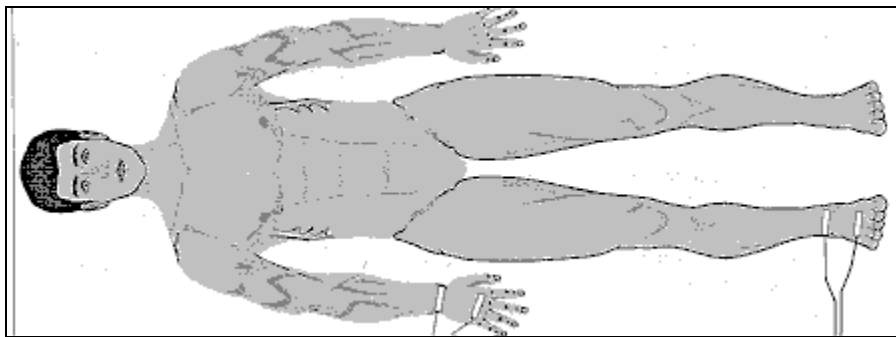

Figure 3-9. Body position and electrode placement
- Position examinee in a supine position with the arms comfortably abducted from the body 15 degrees and the legs comfortably separated. See Figure 3-9.